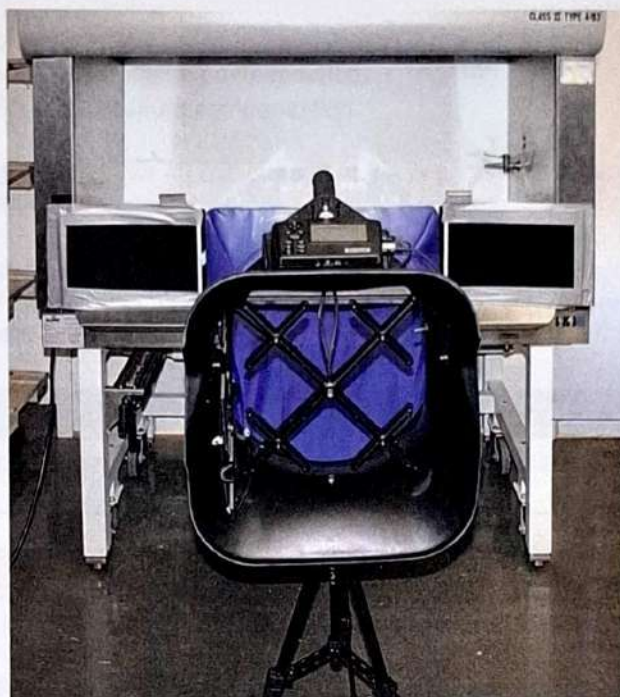

Figure 30: Unit Ready to Make Measurements
7. Adjust the flaps to cover the opening of the cabinet. Tape the edges of the flaps to the sash and frame of the cabinet to create a tight fit. The unit is now ready to make measurements (see Figure 30).